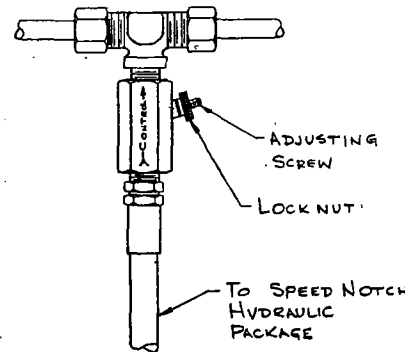

Figure NO. 5
4. Due to the design of the hydraulic system, when using this unit with the Speednotch Power Package, it is necessary to regulate the flow of the hydraulic oil. A flow control valve is furnished in the Tee connection of the Main Assembly. (See Figure NO. 5) To decrease the operating speed of the bender, turn the adjusting screw counterclockwise. Once a satisfactory speed has been attained, lock the adjusting screw in place with the lock nut.